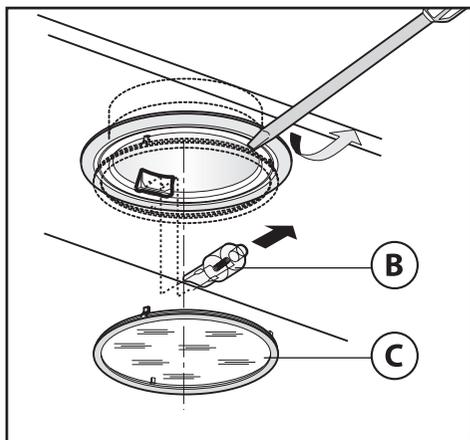

Fig.8
- 4.2 Replacing halogen light bulbs (Fig.8): . . . . . 10
## 4.2 Replacing halogen light bulbs (Fig.8):